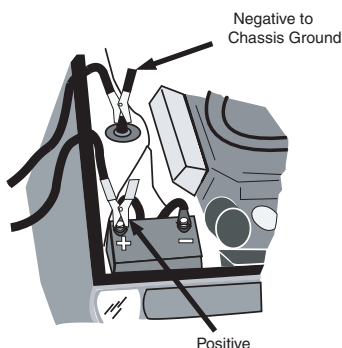
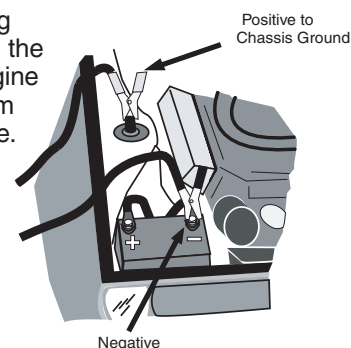

Figure 1
Figure 2
4. Determine which post of battery is grounded (connected) to the chassis. If the negative post is grounded to the chassis (as in most vehicles), see figure 1 and instruction "5a". If the positive post is grounded to the chassis, see figure 2 and instruction "5b".